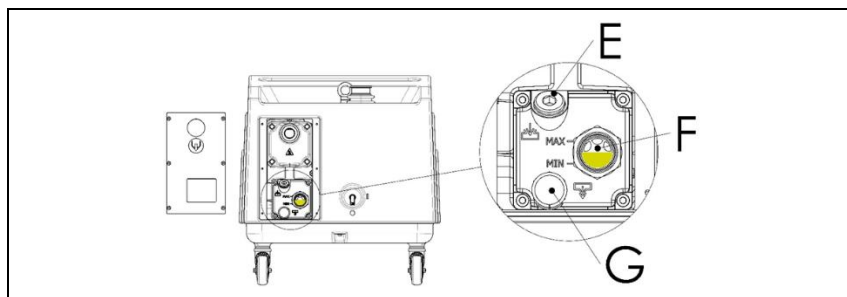
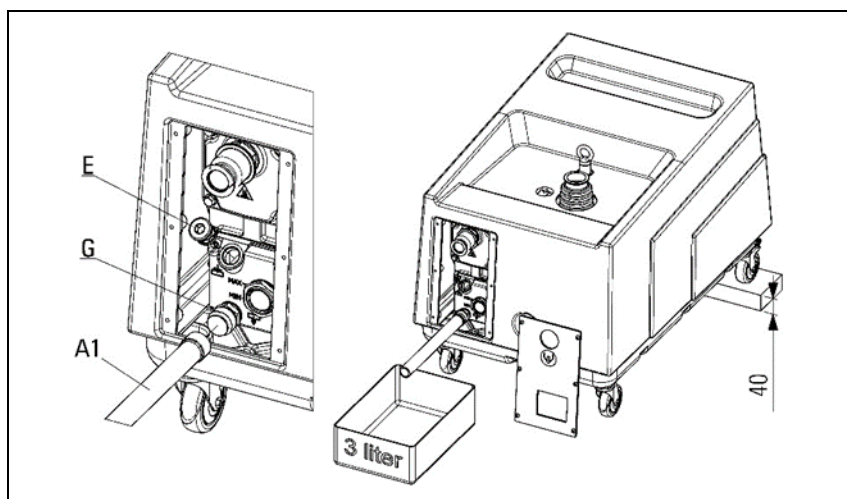

Figure 14
Figure 15
Please refer to Figure 14, Unscrew the oil filling plug (E) and the discharge plug (G) only after having placed underneath the pump tank a suitable container suitable container (see Figure 15 proper size and shape) for collecting the total quantity of oil.
Maximum allowed pressure in the tank is 0.6 bar measured at the maximum capacity (when the pump is working with the inlet open to atmospheric pressure). If a pressure gauge (optional) has been fitted to the oil filling hole (Figure 14) check the exhaust filter blockage with the pump warm.